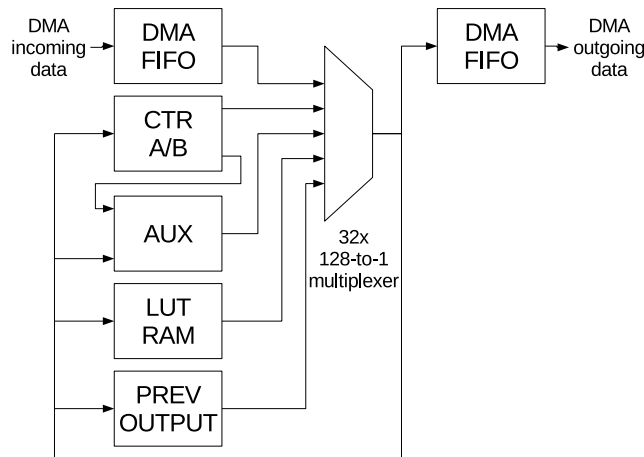

Figure 34.4-1. BitScrambler Data Path Diagram
- 64 bits, shifted in from the input FIFO (i.e., the left DMA FIFO block in Figure 34.4-1). As described before, data from the incoming DMA stream is deposited here. In order to facilitate iterating over input bits in a loop, an instruction can enable relative addressing. In this addressing mode, any mux sourcing a bit from the input FIFO register will actually get the bit offset by the counter A register (i.e., CTR A in Figure 34.4-1).
- 32 bits that were sent to the output in the last cycle (i.e., PREV OUTPUT block in Figure 34.4-1). Data sent to the output register will appear on this register one clock cycle later. This allows the BitScrambler to 'remember' data over multiple clock cycles: by outputting a bit to the output register, even if that bit subsequently is not sent to the output FIFO, the next clock cycle can still access it by selecting from this register. Bits can be remembered longer-term by selecting bits from this register for output again, which makes them appear here in the subsequent cycle.
- 32 bits from 2 x 16-bit counters (i.e., CTR A/B block in Figure 34.4-1). This register contains two 16-bit counters, named 'A' and 'B'. These can be loaded, incremented and decremented via control path instructions.
- 30 bits from comparators between counter B and the previous data on the output (PREV OUT in Figure 34.4-1; the 30 bits described here are part of the AUX block there). These allow the result of comparisons being used for output or for program flow. This can be useful in e.g. decoding run-length encoded streams, or generating PWM signals.
- 2 bits, one fixed-high, one fixed-low (i.e., part of AUX in Figure 34.4-1). These are useful if a protocol needs an always-high or always-low bit in the output that does not depend on the input data.